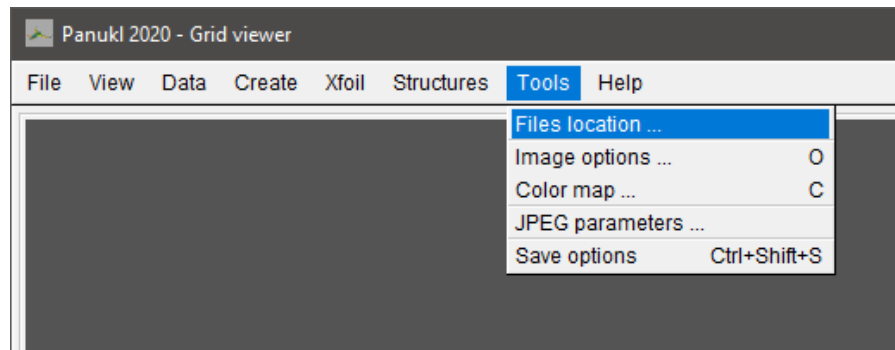

Figure 5 Setting Panukl's working directories.
3. Open Panukl application and in *Tools > File location...* Figure 5 change: